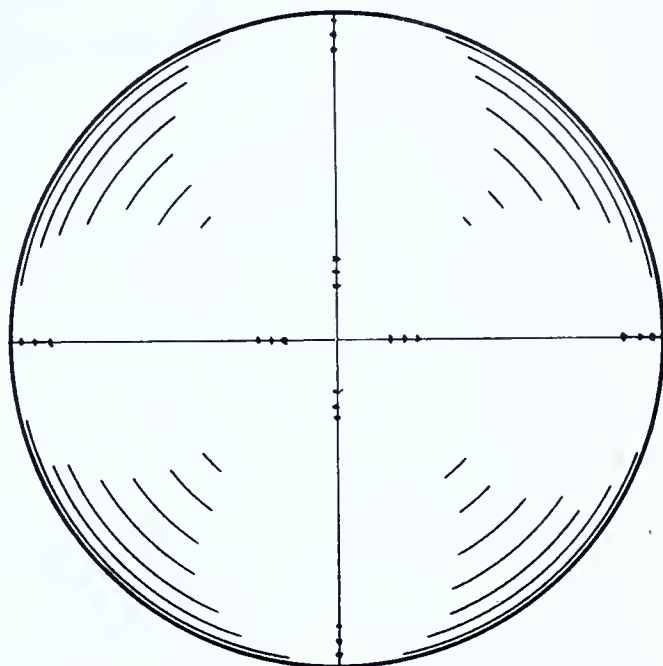

FIG. 276 — Step 23
23. Make center-punch marks on the center lines as shown in Fig. 276.